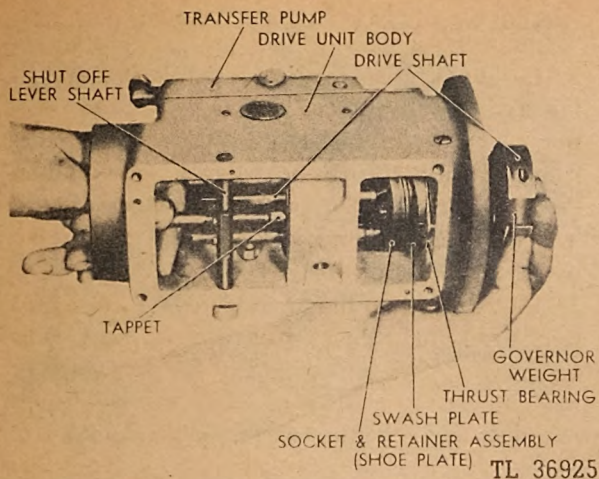

Fig. 273. Checking Tappet Fit Into Shoe Plate
(5) To install the hydraulic unit to the pump, remove one of the tappets which operate the plungers of the hydraulic unit. Look through the bore from which the tappet was removed and make sure the spherical end of the tappet, when replaced, will enter the cupped shoe of the shoe plate assembly. (See Figure 273.) However, if the hydraulic unit is replaced and the pump operated without the tappets properly entered in the cupped shoes, the tappets, shoe plate and other parts of the pump will be ruined. Additional warning of the error is given before any damage is done, as the hydraulic unit retaining ring nut will not screw into its normal location unless the tappets are properly entered.
(6) Make sure the splined bore of the rotor driving member is properly in place on the splined end of the drive shaft in the body of the pump. This will enter only one way (which is the right way).
(3) The pump drive shaft can be removed from the unit by first removing the tappets, rotor push rod, and the cotter pin which retains the swash plate pin. (See Figures 273 and 282.) Be careful not to disturb the location of the timing pointer. Rotate the driver shaft one-half turn until the swash plate pin lines up with and is perpendicular to the Welch plug assembled in the under side of the drive unit body. Then, with a punch, drive the pin down